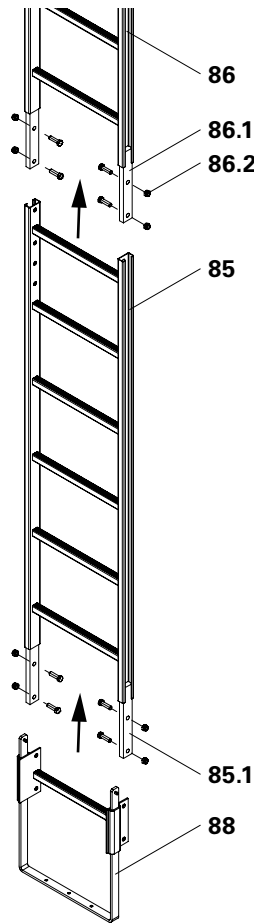

Fig. B5.08
1. Push top Ladder 220/6 (86) with the connector (86.1) as far as possible into the bottom Ladder 180/6 (85).
3. Fix Ladder Base (88) to the connector on the bottom ladder in the same way using 4x bolts M12 x 40 and nuts. (Fig. B5.08)